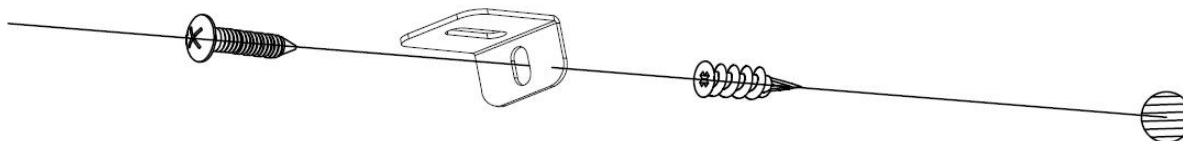

Fig 4-3
C. Install the plastic anchor (C) into the drywall, then install the screw B (supplied) into the hole of the L-bracket into the wall anchor to secure the fireplace from coming off the hooks. (Fig 4-3)